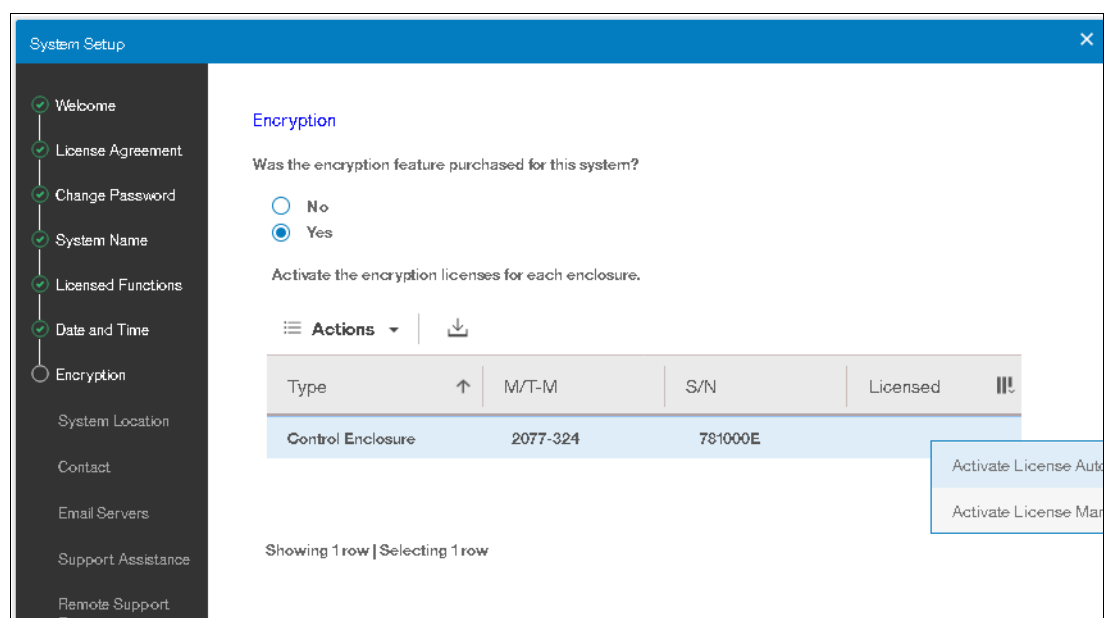

Figure 2-30 Setup wizard: Encryption feature
10. If you purchased an Encryption License for a Lenovo V3700 V2 XP or Lenovo Storage V5030 system, select **Yes** as shown in Figure 2-30. One license is required for each control enclosure. Therefore, in a V5030 configuration with two I/O groups, two license keys are required.